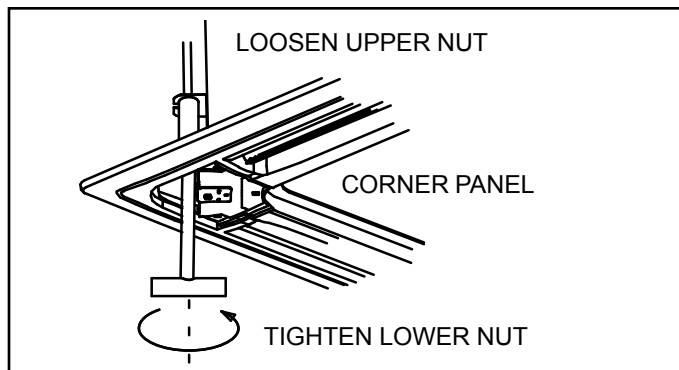

Figure 7. Adjust Unit Height Through Corner Panel
8. Continue to tighten the cover panel securing screws until the insulation between the cover panel and the kit has been compressed to approximately $\frac{1}{4}$ ". The cover panel must form a seal with the ceiling and the kit around the entire perimeter of the kit. See Figure 7.
9. If it is necessary to adjust the cassette height after the cover panel has been installed, access the leveling nut through the removable access cover on each corner. See Figure 7.